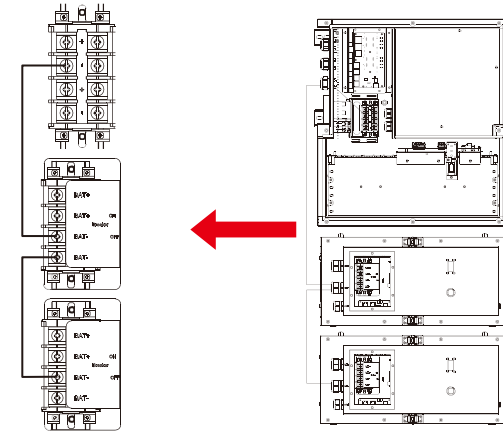

Figure 2.36 Connect the Negative Power Line
**Step 19** Connect negative power line for expansion (Figure 2.36).